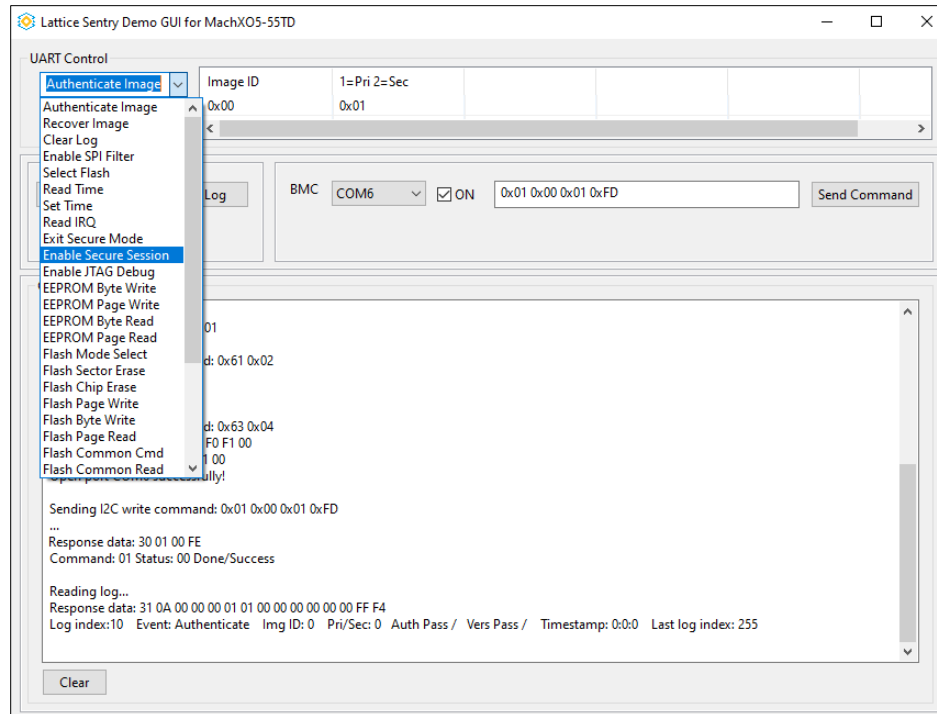

Figure 9.10. Lattice Sentry Demo GUI Enable Secure Session
13. Some Demo GUI commands require the Secure OOB mode. To enter the Secure OOB mode, select **Enable Secure Session** from the **UART Control** drop-down menu (Figure 9.10).